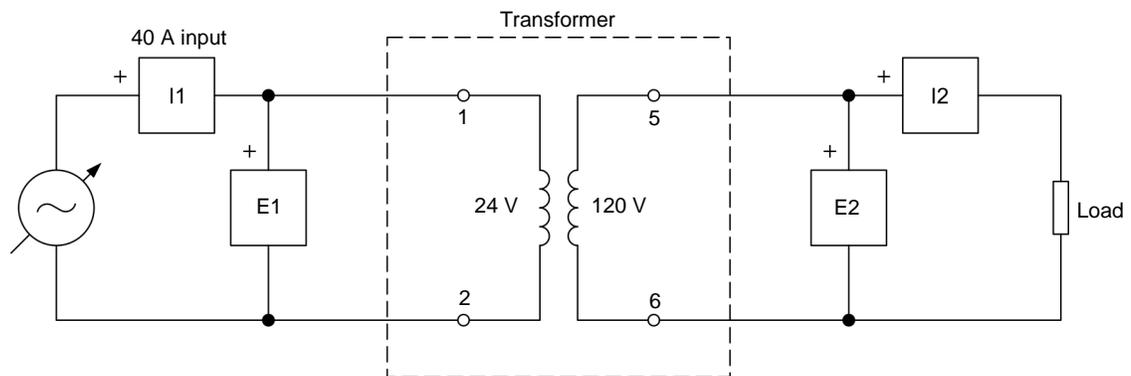

Figure 8. 120 VA step-up transformer connected to a resistive load.
20. Set up the 120 VA step-up transformer shown in Figure 8.